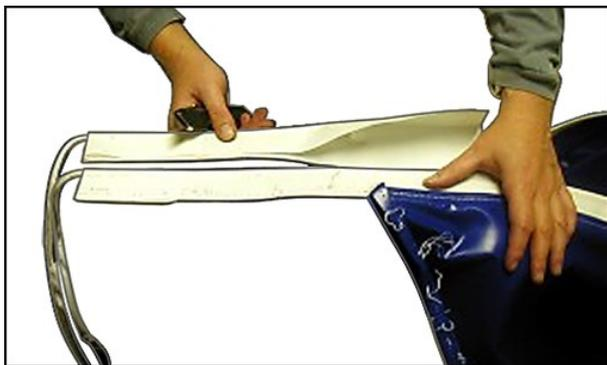

Fig. 3
Step 3: Locate the splice with pre-sewn rope protruding from one end. *(Fig. 3)*